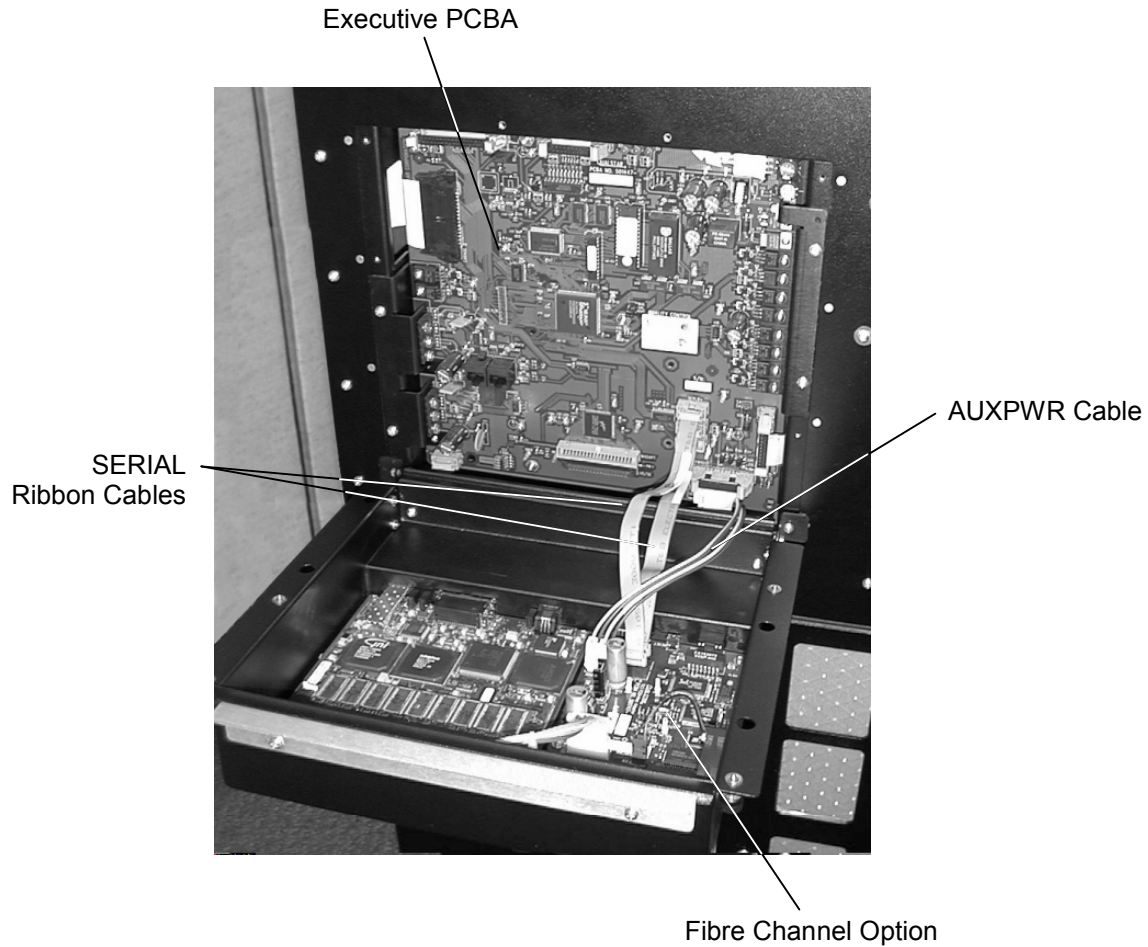
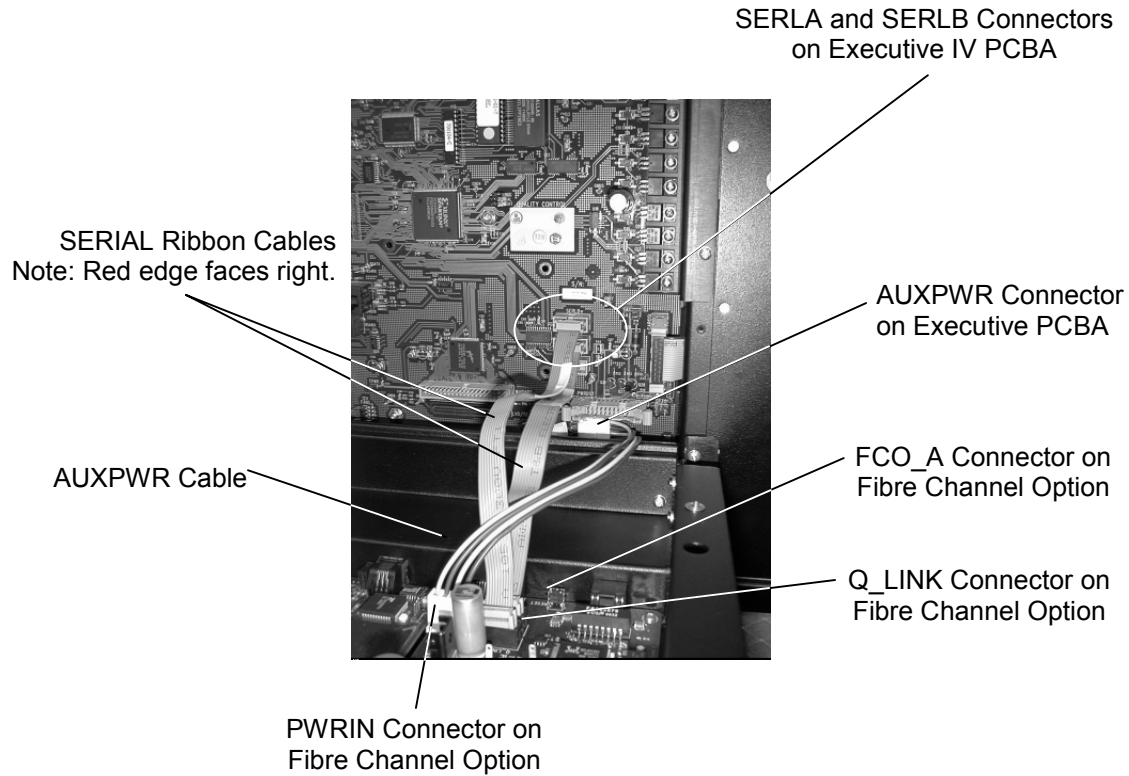

Figure 6-12 Executive PCBA and Fibre Channel Option (Executive IV PCBA Shown)
Figure 6-14 Detail of Connections (Executive IV PCBA Shown)
7. Connect the AUXPWR cable to the AUXPWR connector on the Executive PCBA and to the PWRIN connector on the Fibre Channel Option. See Figure 6-12 and Figure 6-14.
9. Make sure that the Red edge of the ribbon cable faces to the right side when the cable is installed. Connect the SERIAL ribbon cable to the SERIAL connector on Executive III PCBA's or to the SERLA connector on Executive IV PCBA's. Route the SERIAL cable under the AUXPWR cable as shown in Figure 6-12 and connect it to the FCO_A connector on the FCO (Figure 6-14).
10. For those FCOs that also have Q-Link, connect the second SERIAL ribbon cable to the SERLB connector on the Executive IV PCBA. Route the second SERIAL cable under the AUXPWR cable as shown in Figure 6-12 and connect it to the Q_LINK connector on the FCO (Figure 6-14).